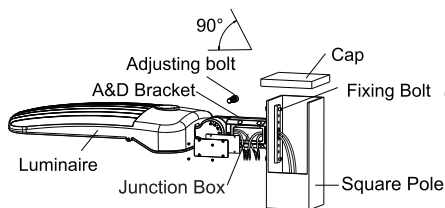

Figure 20
Step 2: Fix A&D bracket to square pole with bolt, open the cover of A&D bracket junction box, pull the wire into bracket junction box, connect the wire properly and cover the junction box. (Figure 20)
Notice: Adjustable angle is 0-90°. (Figure 20)